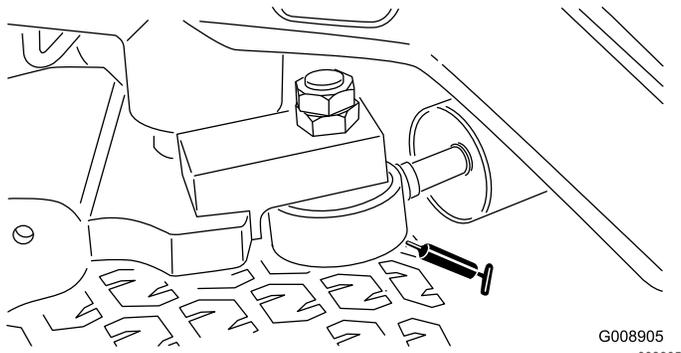

**Figure 51**
1. Release the latches securing the air cleaner cover to the air cleaner body (Figure 51).